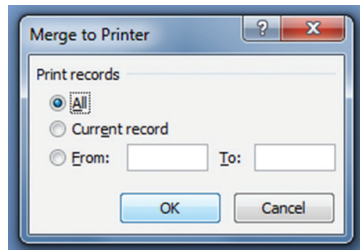

FIGURE 18 Select which labels you wish to print from the Merge to Printer window.
- P. A **Merge to Printer** selection box appears, offering the option of printing **all labels**, the **current record**, or specifying a **range** (Fig. 18). Check the appropriate button.